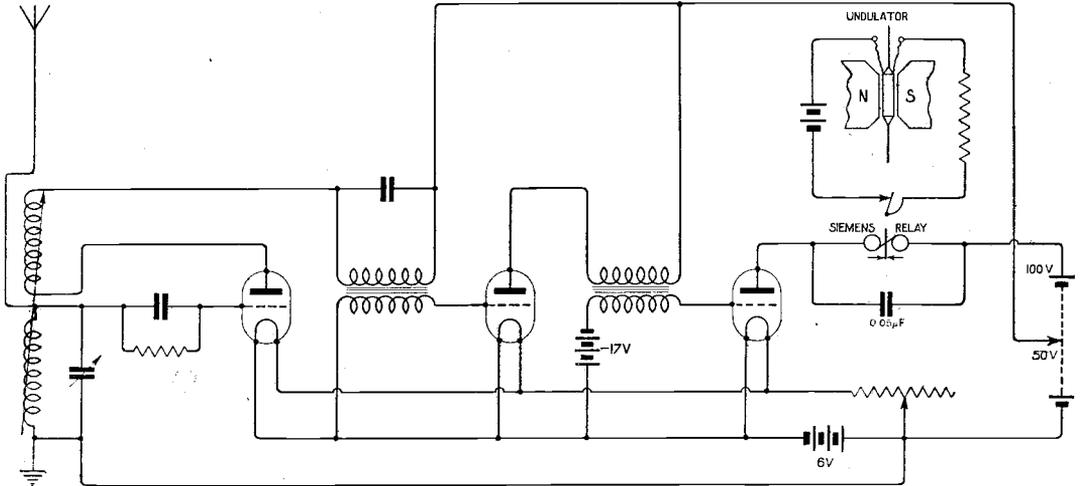

Fig. 3. Complete diagram of the receiver and recorder.
*Photograph of specimens of tape obtained with the recording circuit of Fig. 3.*
Fig. 3 is a diagram of the circuit used for recording. The grid condenser and leak method of rectification is used. This circuit does not, I think, call for any explanation, it being one of everyday use.